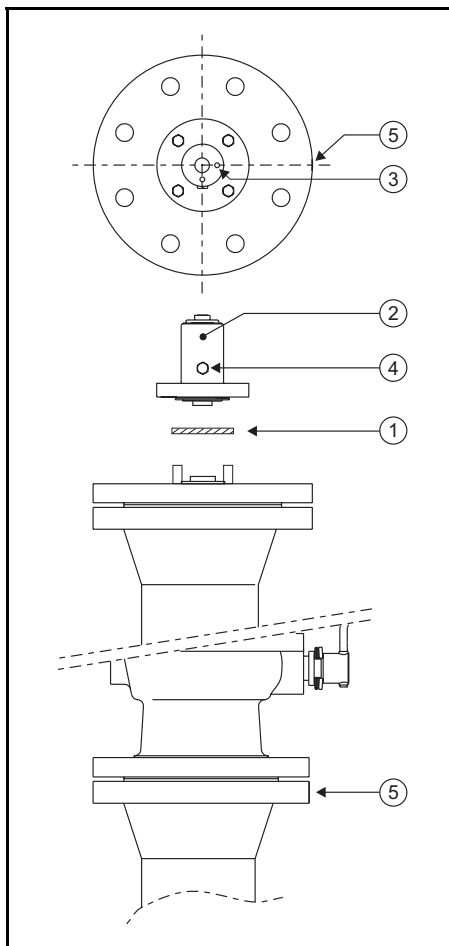

Figure 9.4 Position of adapter flange with respect to equalisation holes or verification pins
Refer to figure 9.4.
- 3) Turn the 4" adapter flange in position. The correct position is as indicated in figure 9.4. Hole for locking pin (3), which is 90° away from vent plug (4), is in line with the marker on the stilling well flange (5).